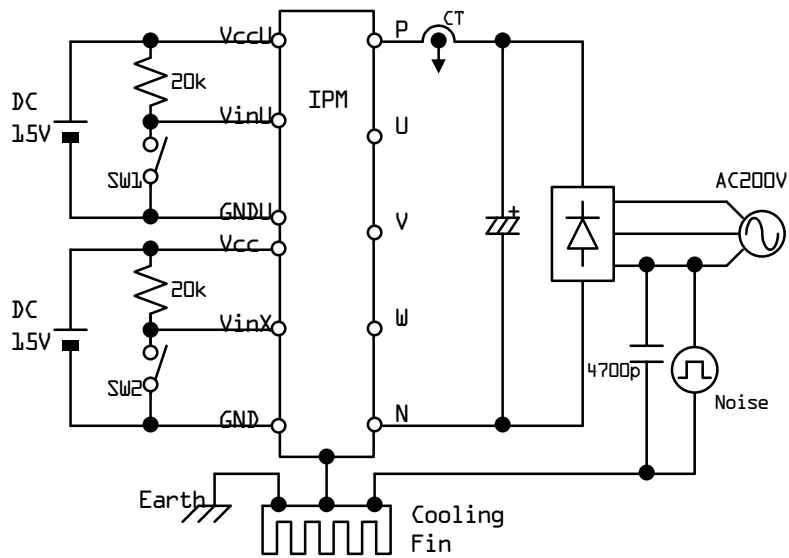

Figure 5. Noise Test Circuit
7. Noise Immunity (Vdc=300V, Vcc=15V, Test Circuit Fig 5)